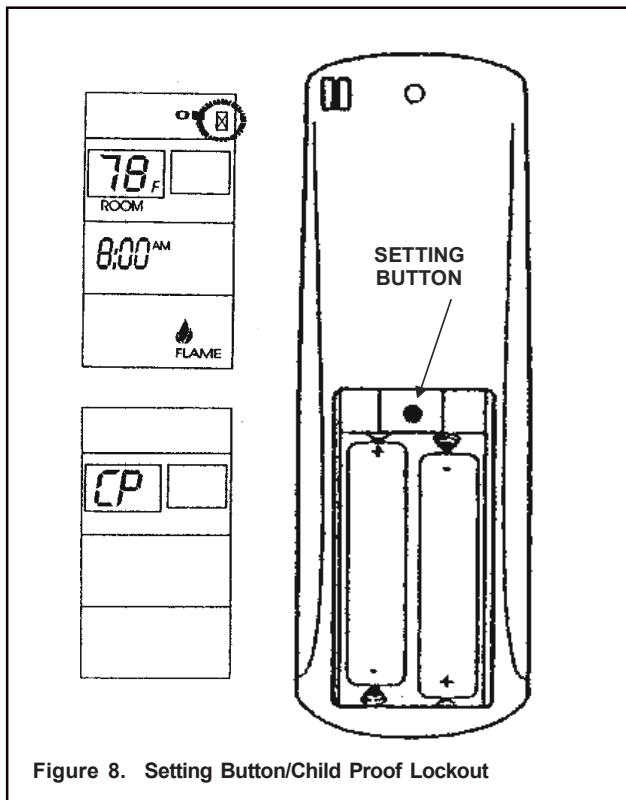

Figure 8. Setting Button/Child Proof Lockout
1. Remove the battery cover on the back of the transmitter and locate the “setting button” at the top center of battery compartment (see Figure 8).
1. Press and hold in the "setting button" for 5 seconds. The letters CP will display on the LCD screen (see Figure 8). This prevents the activation of fireplace. When any function button is pressed ON/OFF etc. the letter CP will display on the LCD screen.